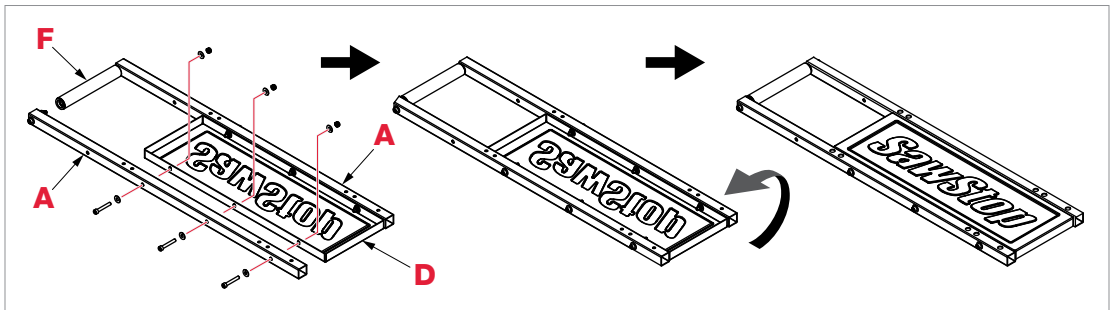

Fig. 7
- Slide the table tube (**A**) with the other ball bearing towards the insert table (**D**) and large table roller (**F**), and press the ball bearing into the open end of the table roller bushing in the large table roller (see Fig. 7).
Turn the assembly over, so the large table support tube mounting holes and the “SawStop” text are on top (see Fig. 7). Use a straight-edge to make sure the top surface of the insert table (**D**) does not extend above the top surfaces of the table tubes (**A**). If necessary, loosen the six M6 lock nuts and adjust the height of the insert table relative to the table tubes, then re-tighten the lock nuts. Set the table tubes with the insert table and large table roller aside.